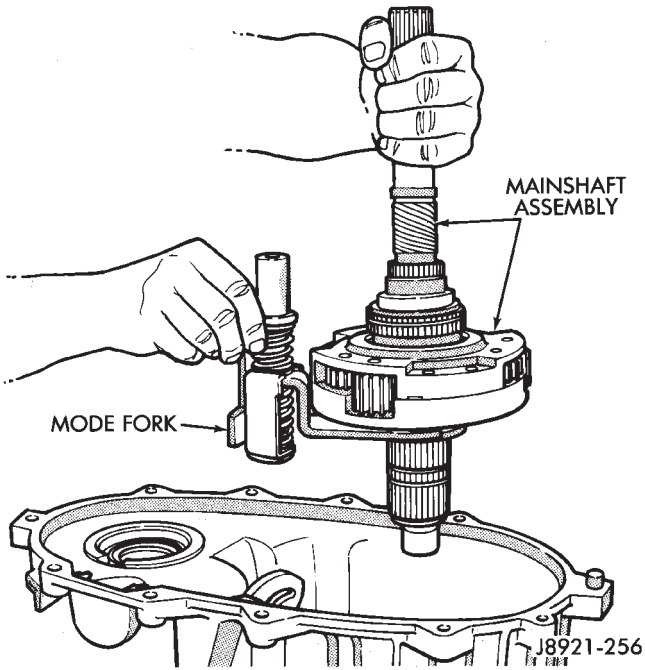

Fig. 22 Removing Mode Fork And Mainshaft
(29) Remove mode fork and mainshaft as assembly (Fig. 22).